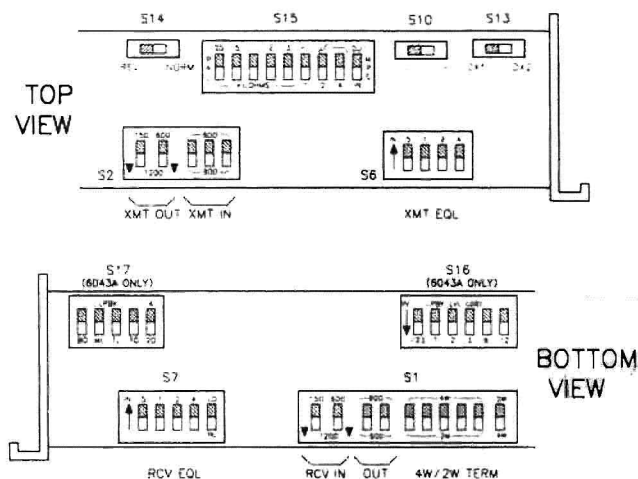

figure 1. 6043/A option switch locations
2.06 Several option switches must be set before the 6043/A is placed into service. Locations of these switches and of certain alignment switches on the module's printed circuit board are shown in figure 1. Table 2 summarizes all switch options and provides a convenient **checklist** that can be filled out either prior to installation for prescription optioning or during installation to serve as a record for later reference. Refer to figure 1 and table 2, and set each option switch on the 6043/A as required.